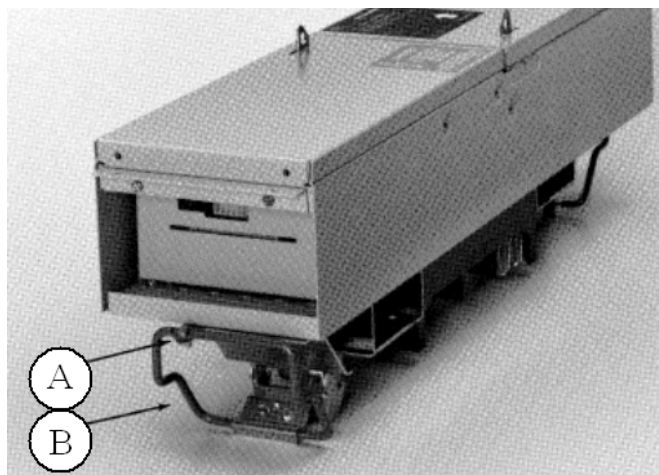

Figure 7. Retracting the rail latches of a Voltage Module.
To install the Voltage Module into a Spectra® Series Switchboard, first loosen the rail latch screws (A) and retract latches (B) on both ends of the module as shown in Figure 7.